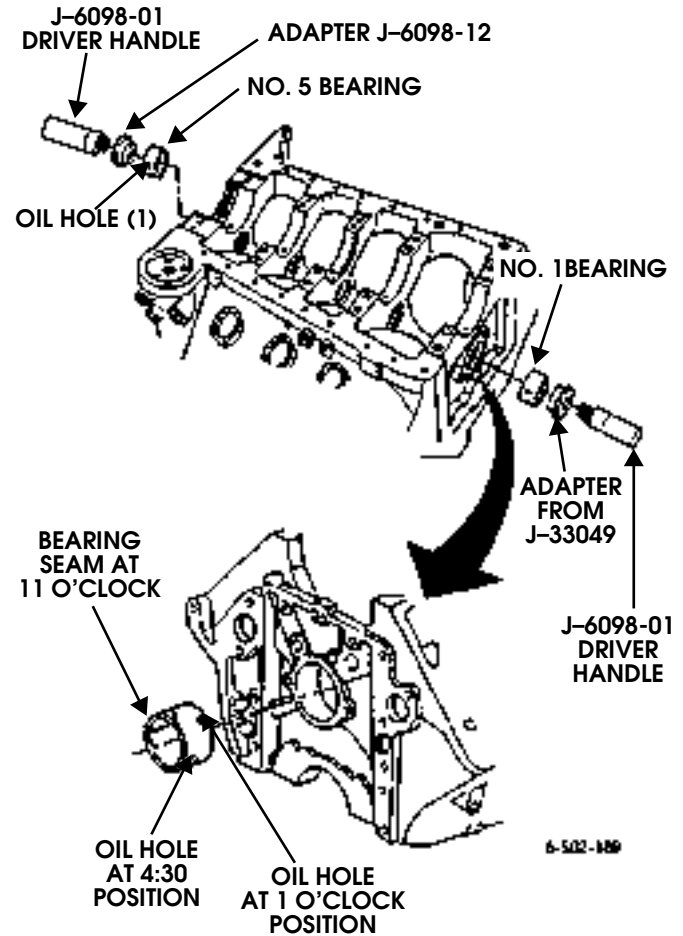

Figure 2-111: Installing Cam Bearings 1 and 5
8. Align oil hole in new No. 5 bearing with J-6098-01 alignment mark on block. Seat bearing in block with driver handle and adapter J-6098-12 (Figure 2-111).
9. Align both oil holes in new No. 1 bearing with oil holes in block (Figure 2-111). Bearing notch should be facing out and seam at 11 O'clock position. Seat bearing in block with driver handle and adapter J-33049 (Figure 2-111).
10. Check installation of bearing number 1 and 5. Verify that bearing oil holes are centered on slots in bores and that bearings are flush with edges of bearing bores. The small groove in each bearing should be towards upper part of block. Remove and reposition either bearing if misaligned (Figure 2-111).